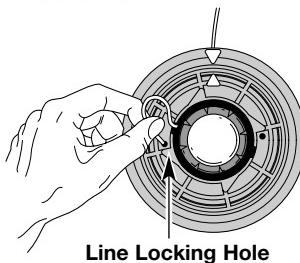

Fig. 21
5. Insert the line into the locking hole (Fig. 21). Do not push the line more than 1/2 inch (12.7 mm.) into the line locking hole. When inserted correctly the line will form a small loop (Fig. 21).